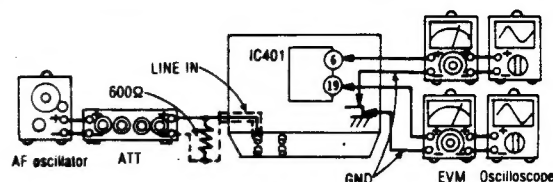

Fig. 10
1. Test equipment connection is shown in Fig 10.
3. Adjust by attenuator so that the output between terminal ⑩ (L-CH) (terminal ⑪ (R-CH)) of IC401 and ground is 12.3mV.